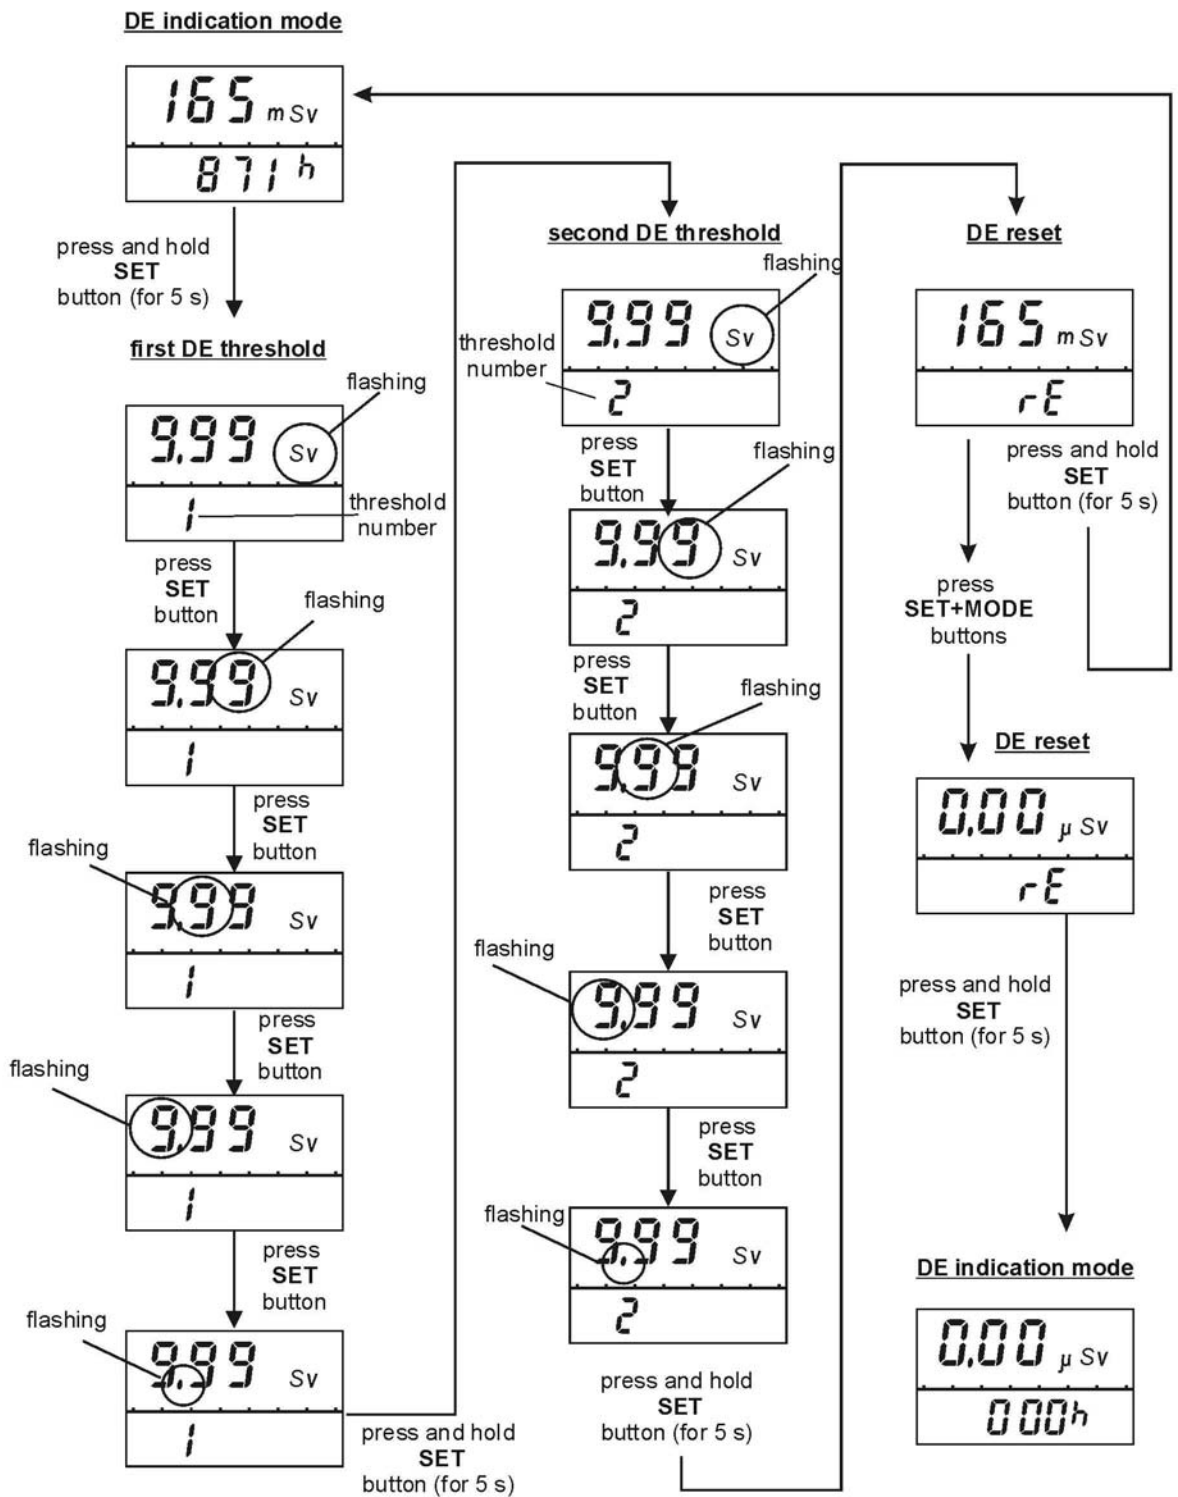

Figure 2.2 - Setting the DE threshold values
DE and DE accumulation time can be reset in the set mode by simultaneously pressing the LIGHT+MODE buttons (Figure 2.2).
Auxiliary set mode (figures 2.2, 2.3) is meant for verification and (or) setting of the threshold DE (DER) values, DE and DE accumulation time reset.
Enter the set mode by pressing and holding the SET button (Figures 2.2, 2.3). Input the first and then the second threshold levels. Exit the set mode. In data transmission to PC mode it is possible to set an inhibit for changing the threshold levels using the buttons. In case of exceeding the value of the first (second) DER (DE) threshold, the dosimeter turns correspondingly into the DER (DE) indication mode and noncontinuous (frequent noncontinuous) audible signal will sound. When the DER value drops below the preset threshold, the audible signal will shut off. Press any button to silence the alarm sound. The audible signal will shut off automatically in approximately 60 seconds, the repeated audible signal will sound in approximately 4 minutes.